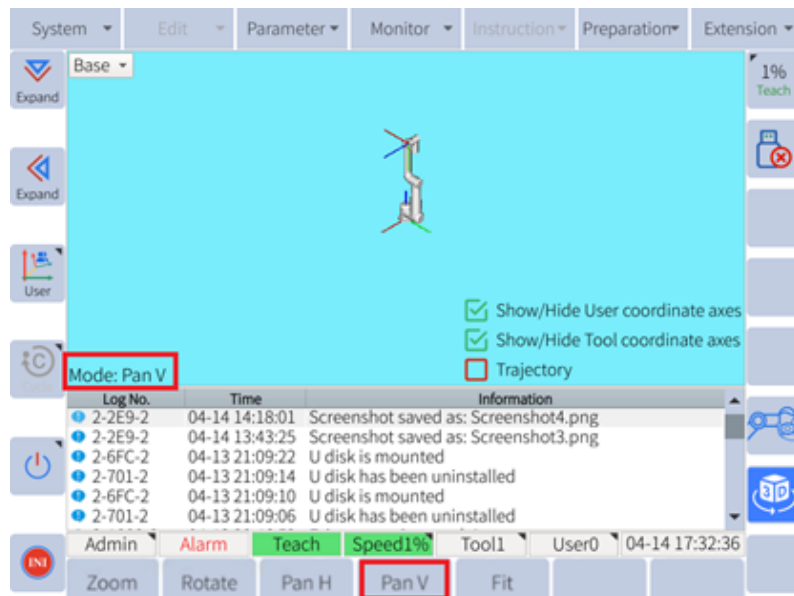

Figure 6-26: Mode
2.2.3 Mode is displayed as shown in **Figure 6-26**: